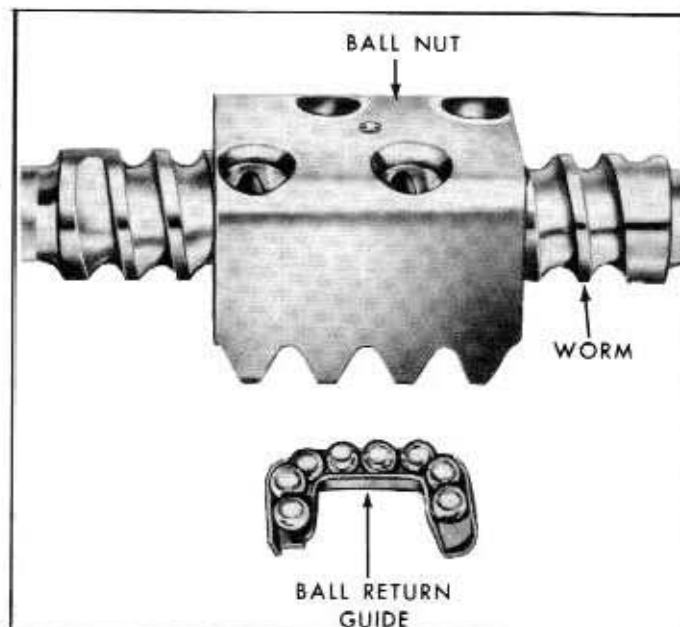

Fig. 5-16—Ball Guide Filled—Typical—(60C-2017)
7. Coat the groove of one half of a return guide with clean chassis grease, and place the remaining balls in the guide. See figure 5-16. Add the other half of the guide and, while holding the two halves together, push the guide into the guide holes in the ball nut. If the guide cannot be pushed all the way down easily, tap it lightly into place.